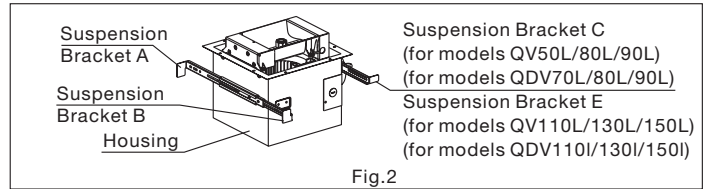

Fig.2
19.2 inches or 24 inches	Refer to Fig.2 insert